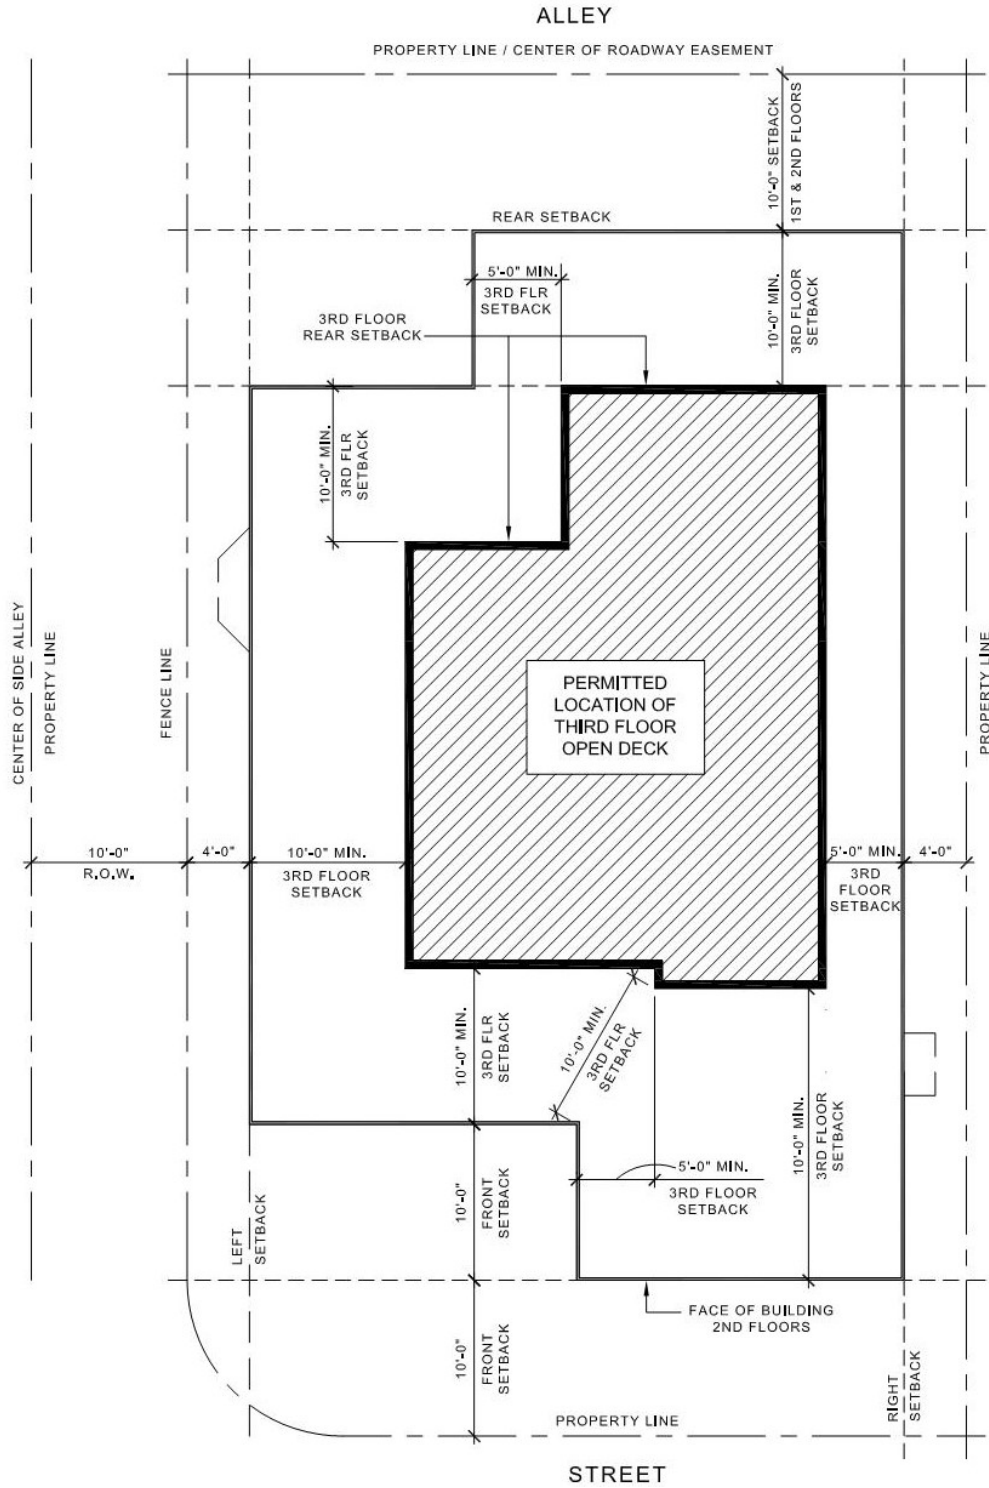

Figure 11
- e. **Corner Lots** - Minimum of ten foot (10') setback from the side yard setback facing the street. (see Fig.11 for additional requirements)
- h. **Maximum Allowable Area** - The maximum size of a third floor deck for the typical 4,000 square foot Bayshores lot shall be four hundred fifty (450) square feet, subject to adjustment as may be determined to be appropriate by the Architectural Committee in special and unusual circumstances.
- j. **Access to Third Floor Open Deck** - Any open stairway, enclosed stairwell, or elevator shaft providing access to a third floor deck (herein "third floor access way") shall satisfy the following requirements: (1) the third floor access way above the second floor level shall satisfy the same front and alley/rear setbacks as are applicable in accordance with items "a"- "c" and "f"- "g" above; (2) the entry exit point of the landing of the third floor access way at the third floor level shall be outside the applicable setback areas described in items "a"- "g" above; (3) the third floor access way above the second floor level shall be no larger in size than is needed to provide access to the third floor deck; and (4) the third floor access way above the second floor level shall be located and designed to blend into the roofline or otherwise so as to minimize to the maximum extent feasible the appearance of a third story structural element as viewed from nearby streets, alleys, and homes.
C.7.3 FIGURE 11: THIRD FLOOR SETBACK, REQUIREMENTS & LOT DIAGRAMS